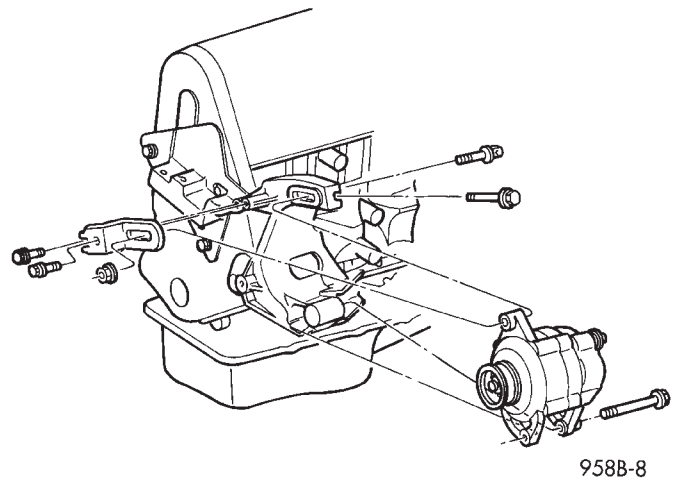

Fig. 76 Generator and Brackets
- (6) Lower vehicle and place a jack under engine.
- (7) Remove right engine mount. Refer to procedure in this section.
- (8) Remove generator and bracket (Fig. 76). Refer to Group 8C, Charging System for specific procedures.
- (8) Install front half of timing cover.
- (9) Install generator bracket and attaching bolts.
- (10) Install idler pulley to generator bracket.
- (11) Install engine mount bracket.
- (12) Install generator bracket to engine (Fig. 76). Tighten attaching bolts to 61 N·m (45 ft. lbs.).
- (13) Install generator (Fig. 76). Refer to Group 8C, Charging System for procedure.
- (14) Install right engine mount. Refer to procedure in this section.
- (15) Remove jack from under engine.